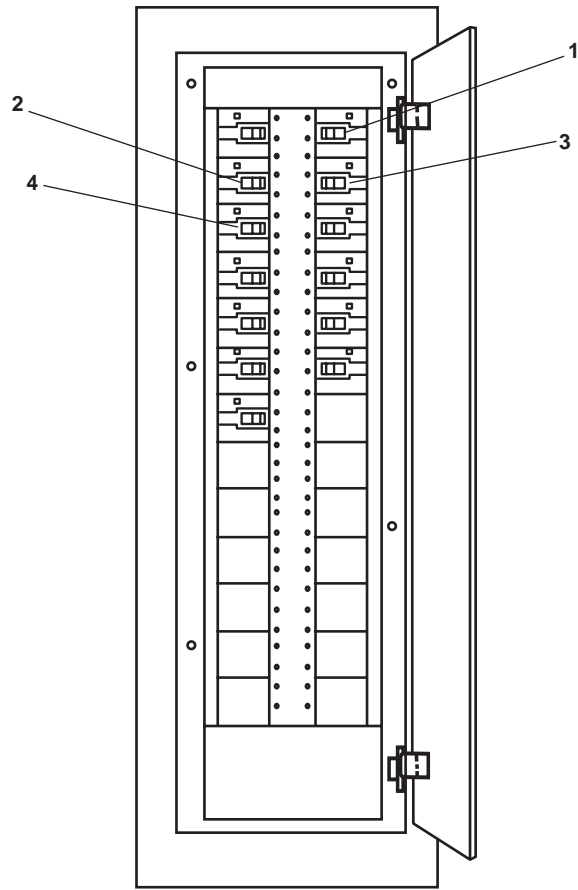

Figure 5. 440V Power Panel No. 5
- a. POTABLE WATER PUMP No. 1. (figure 5, item 1)
- b. POTABLE WATER PUMP No. 2. (figure 5, item 2)